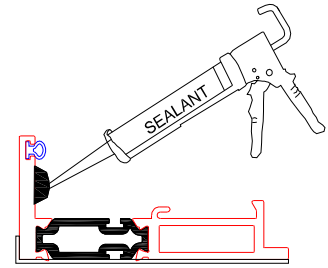

Figure 9:
- Apply a 1/4"×1/4"×4" bead of compatible sealant from each corner on inner flange of panel (Figure 9 & 10).
1. Before glazing, apply a continuous bead of sealant to the inner frame (Figure 9).